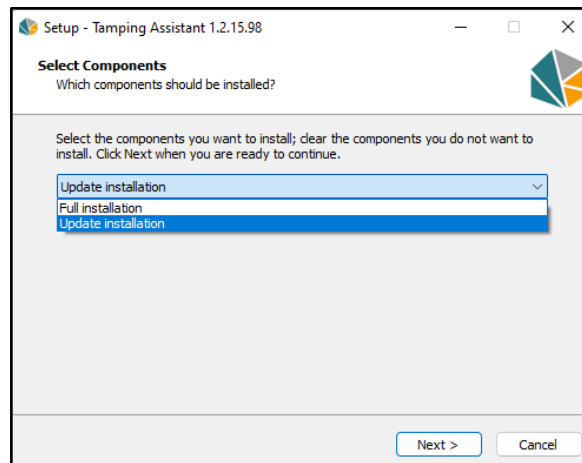

Figure 18. Update installation
3. If there is any previous version of application exists, the screen shown in **Figure 18**. Update installation will appear.